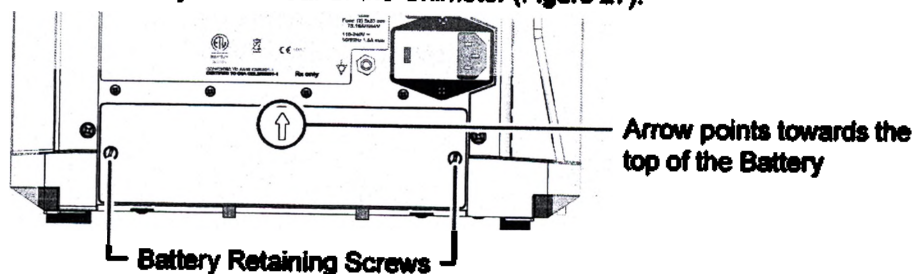

Figure 27: Battery Compartment
2. Locate the Battery on the rear of the Oximeter (Figure 27).
2. Position the Battery near the Battery compartment with the arrow on the outside cover pointing up (see Figure 27 on page 51).